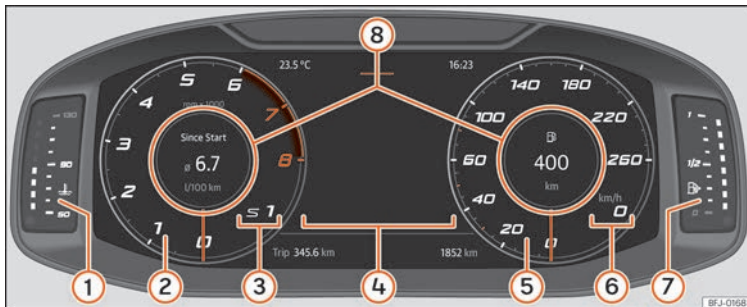

Fig. 54 SEAT Digital Cockpit on the instrument panel (classic view).
In the **Classic** and **Navigation** views it is possible to customise the information displayed under **Information profiles** » **Fig. 54 ⑧**.
» **Fig. 54.**